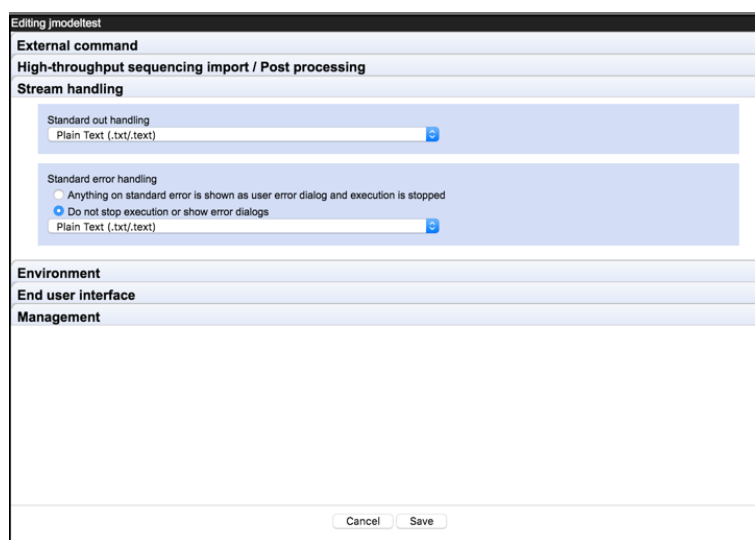

Figure 13.34: Standard error and standard out from the command line application can be collected and imported so it can be reviewed.
- Configure the external application to import standard out and/or standard error as text. This makes it possible to check error messages posted by the external application. See figure 13.34. For containerized external applications, messages from docker are posted to standard error, so collecting standard error for such applications is particularly recommended.